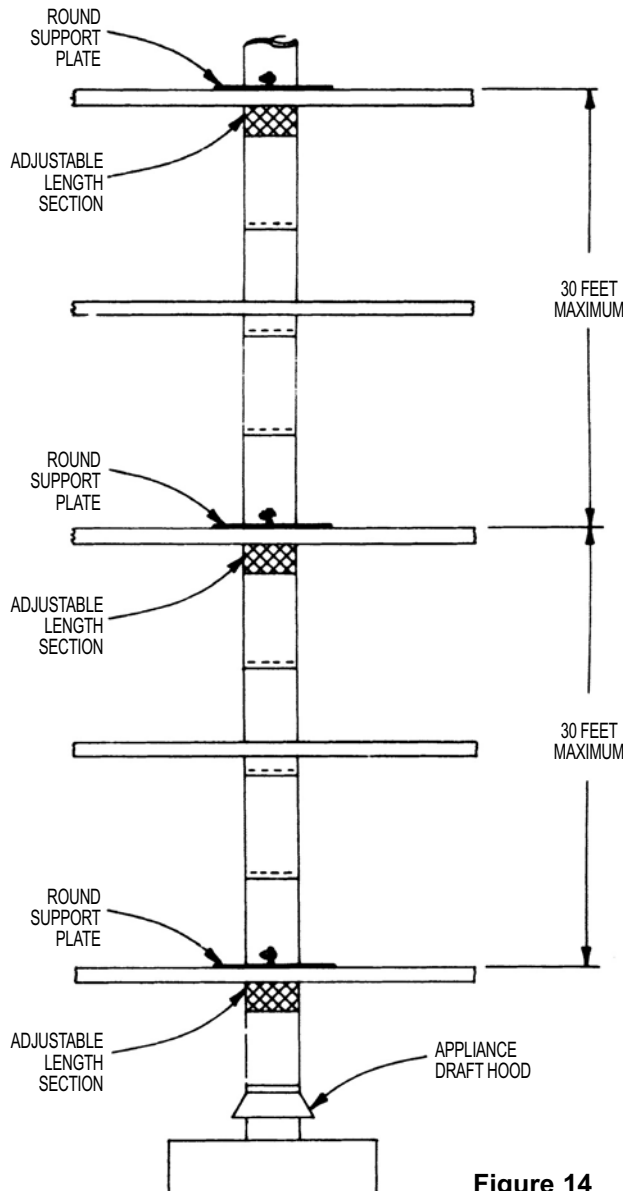

Figure 14
4. Mounting holes are provided around the perimeter of the Round Support Plate. Use appropriate fasteners to secure the Support Plate halves to the opening between floors. (Round Support Plates should be attached to the TOP of the opening only. See **Figure 14**.)
5. For installations with multiple supports, an Adjustable Length Section of Type B Gas Vent should be installed between each pair of locations where a support is used. See **Figure 14**. This allows the